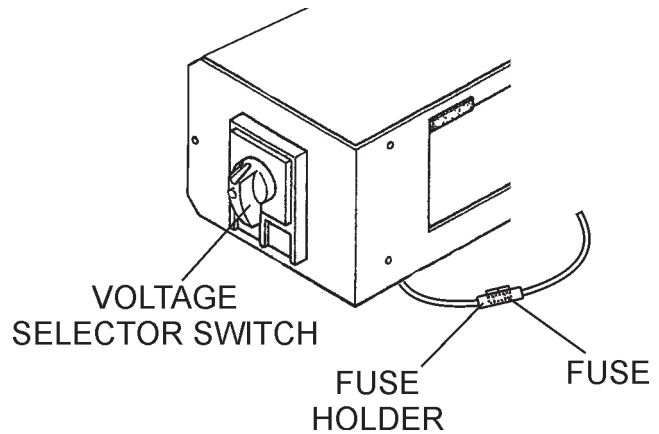

Figure 15. Blower Fan Fuse
This unit has an intake fan located at the rear of the machine to draw outside air into the cabinet to cool the engine. The fan has a 10 amp AC fuse located beneath the **Voltage Selector Switch** (Figure 15).
A wide range of voltages are available to supply voltage for many different applications. Voltages are selected by using the **voltage selector** switch (Figure 15). To obtain some of the voltages as listed in Table 7 (see below) will require a fine adjustment using the **voltage regulator** (VR) **control knob** located on the control panel.